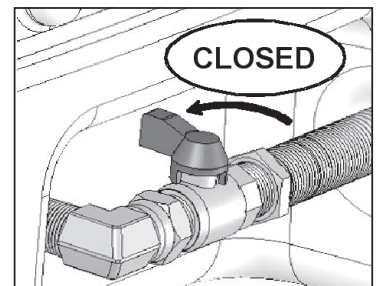

Figure 3
- a. Close ball valve by turning the handle counterclockwise until it stops in 90° position as shown in Figure 3.